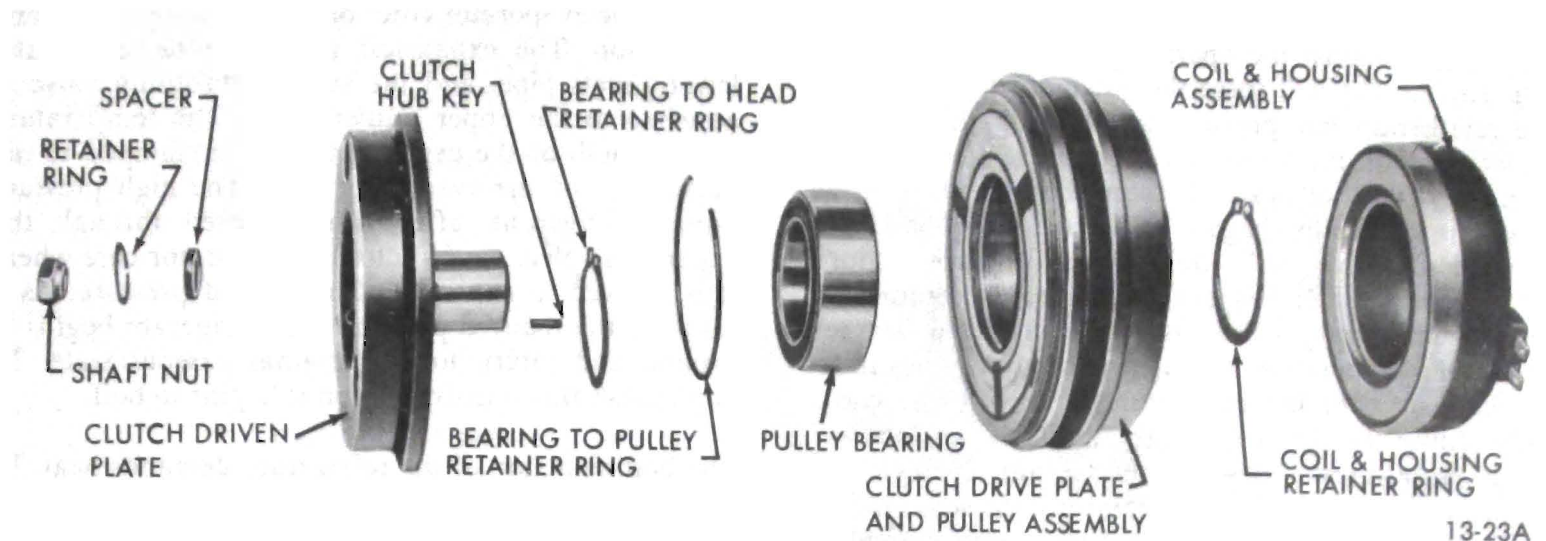

Figure 13-8 Magnetic Clutch and Pulley Assembly
12. Magnetic Clutch and Pulley Assembly - The magnetic clutch and pulley assembly (see Figure 13-8) together transmit power from the engine crankshaft to the compressor. The magnetic clutch is actuated when the air conditioning clutch compressor switch and the fan switch located on the instrument panel control assembly are closed. When the switches are closed, the coil sets up a magnetic field and attracts the armature plate (movable element of the clutch driven plate). The armature plate portion of the clutch driven plate moves forward and contacts the friction surface of the pulley assembly, thereby mechanically linking the compressor to the engine. The compressor will operate continuously whenever the air conditioner clutch compressor switch and the fan switch are closed. When one or both of the switches are open the armature plate will be released due to spring tension and move away from the pulley assembly. This allows the pulley to rotate without driving the shaft. It should be noted that if the air conditioner system was in use when the engine was turned off, the armature plate may remain in contact with the pulley due to residual magnetism. When the engine is started the armature plate will separate from the pulley assembly. The coil is rated at 3.85 ohms (85 degrees F.) and will draw 3.2 amperes at 12 volts D.C.